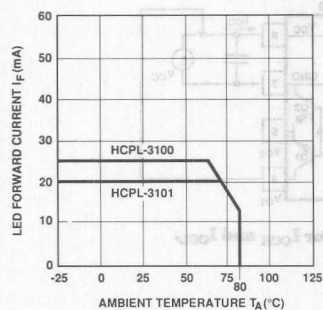

Figure 11. LED Forward Current vs. Ambient Temperature.
- Derate absolute maximum ratings with ambient temperatures as shown in Figures 11 and 12.